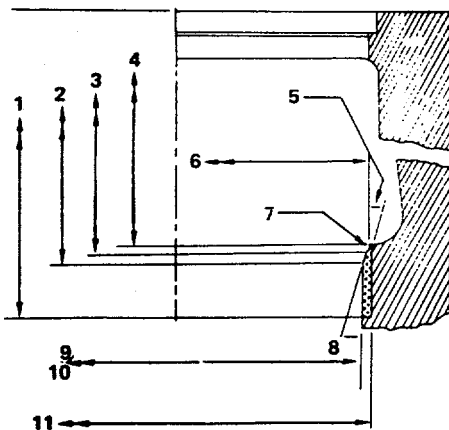

Figure 13-53. Sleeve and Block Boring Dimensions 13-102
(a) Bore block as shown in figure 13-53 and to dimensions as follows:
- (o) Bore sleeve inside diameter as shown in figure 13-53 and to dimensions as follows:
- 1. Bottom of sleeve (8) 20-degree chamfer to (2) block deck 7.314 to 7.326 inch (185.78 to 186.08 mm).
- 2. Top of sleeve 20degree chamfer to (3) block deck is 7.265 to 7.285 inch (184.53 to 185.04 mm).
- 3. Bottom of sleeve (7) 0.040 to 0.060 inch (1.02 to 1.52 mm) radius to block (4) deck 7.187 inch (182.55 mm) maximum.
- 4. Top of sleeve (7) radius is 0.040 to 0.060 inch (1.02 to 1.52 mm) (6) diameter 6.250 to 6.260 inch (158.75 to 159.00 mm).
- 5. Sleeve (9) bore diameter is 6.124 to 6.126 inch (155.55 to 155.60 mm) to a (10) depth of 8.850 to 8.875 inch (224.79 to 225.42 mm).